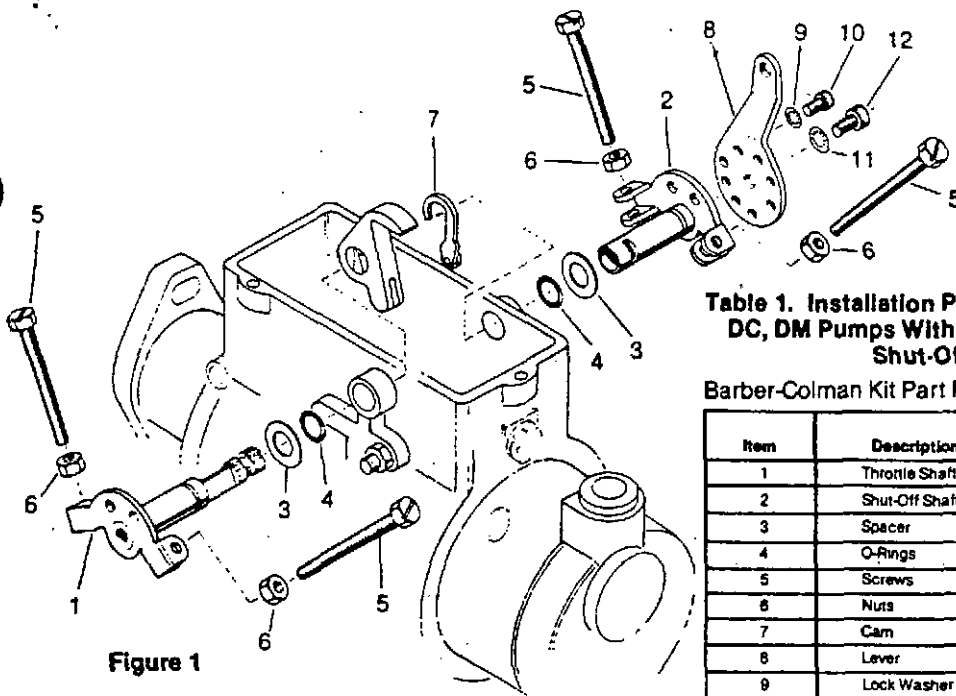

Figure 1
- Modification of mechanical governor without a shut-off shaft assembly. Refer to Figure 1 for an illustration of this modification.
1. Remove the governor top cover and modify the Roosa Master mechanical governor by installing the parts as described in Figures 1 or 2 and Tables 1 or 2 of this bulletin.
2. With the above cover removed, set the maximum fuel set screw on the shut-off lever shaft. Rotate the throttle lever to compress the governor control spring so that the governor spring hook assembly is under spring pressure. Then rotate the shut-off shaft lever CCW until the cam assembly, Item 7 in Figure 1 and Table 1, just makes physical contact with the governor spring hook assembly. Set and lock the shut-off shaft set screw to stop CCW rotation at this point. Replace the mechanical governor top cover.